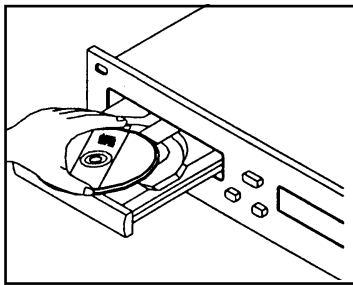
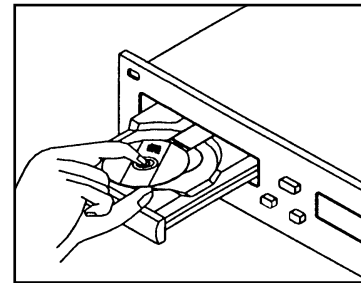

Fig.8
Fig.9
- When using 5 inch/12 cm discs, place the disc in the outer tray guides (Figure 8), and when using 3 inch /8 cm discs, place them securely in the inner guides (Figure 9).